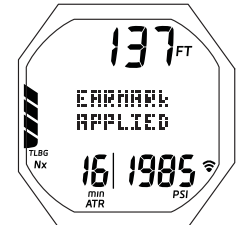

Fig. 71C - NO DECO MAIN
- M (< 2 sec) - to apply a snapshot Earmark to the PCI data recorded at that time. *The graphics EARMARK APPLIED will be displayed in place of NDC for 3 seconds (Fig. 71C).*